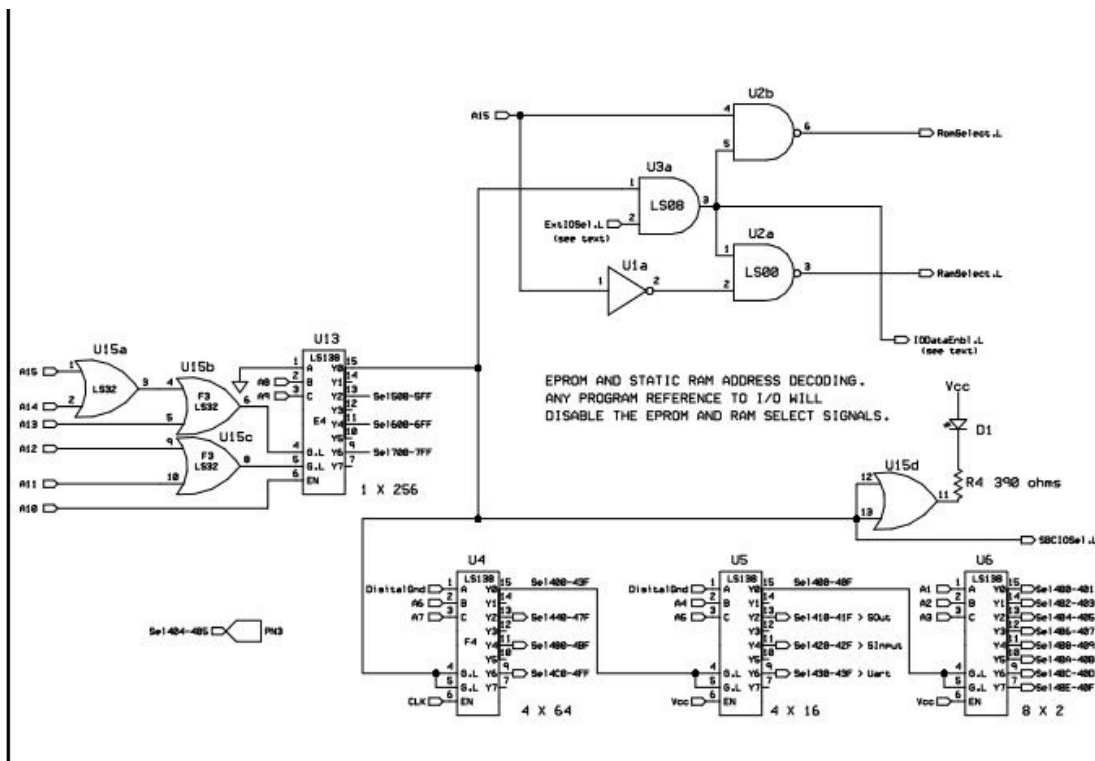

Figure 6 Decoding CPU Addresses
Please study **Table 1**. Notice that each address line is actually a signal that can be either **HI** or **LO**. These binary values are used for the inputs of the address decoding circuitry in **Figure 6**. You can *statically* test an address decoder circuit without a CPU, by presenting Vcc and ground (**HI** or **LO**) to the appropriate pins of your design!
Step 3, we make observations about our address ranges, and use the bit levels (HI or LO) present at each address line in those ranges to generate the select signals we want. **Figure 6** shows the schematic of the **SBC65V1B** decode circuitry. First we will focus on the control signals for the RAM and EPROM, then the signals for the I/O circuits.